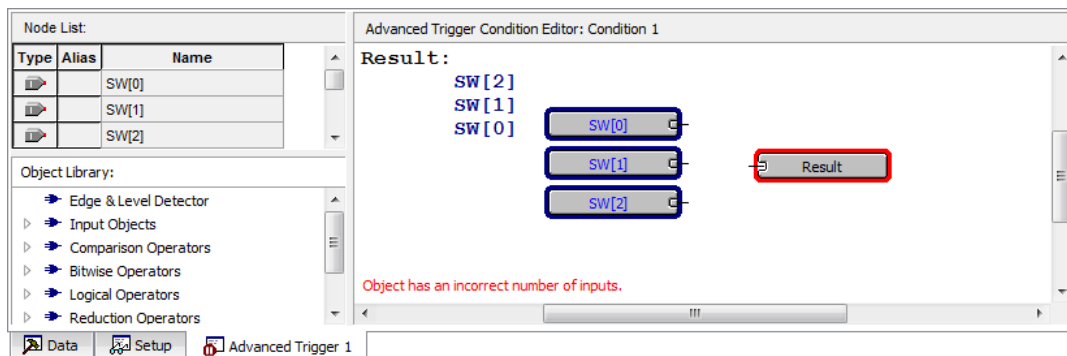

Figure 18. The three input nodes of interest dragged into the Advanced Trigger Editing Window.
4. In the node list section of this window, highlight the 3 nodes SW[0] to SW[2], and click and drag them into the white space of the Advanced trigger window, resulting in Figure 18. Note that you can also drag and drop each node individually.